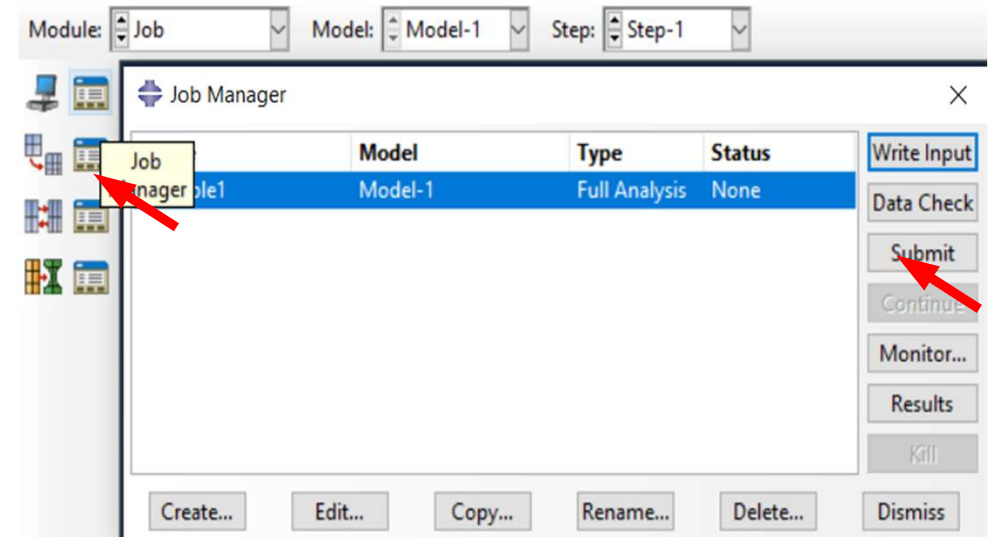

Figure 3
- Click Job Manager (Fig.3), select the job and click “Submit”